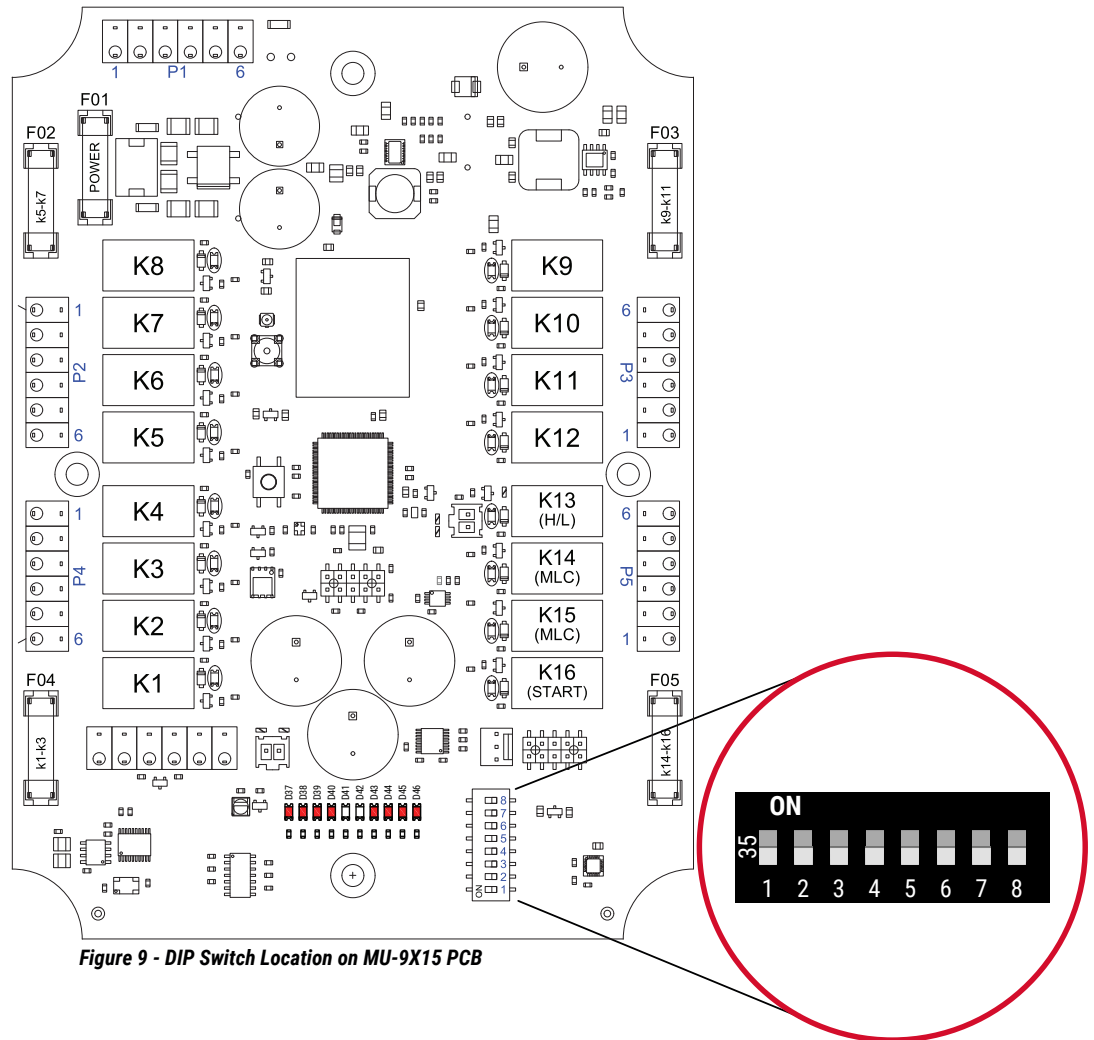

Figure 9 - DIP Switch Location on MU-9X15 PCB
The MU-9X15 uses **SEVEN** DIP switches to allow for system configuration to any of the 126 possible settings. When the switch is in the down position, close to the numbers, it is in the OFF (0) position. When the switch is cycled away from the numbers, it is in the ON (1) position. See **Figure 9** above for the location of the DIP Switches on the MU-9X15 PCB. Also, please see the **Configurations Section** for more info on DIP Switch configuration settings.
The Associate process is locked in the MU-9X15 receiver by the DIP switch 8 being set to 0 (OFF) (see **Figure 9** for DIP Switch Location).